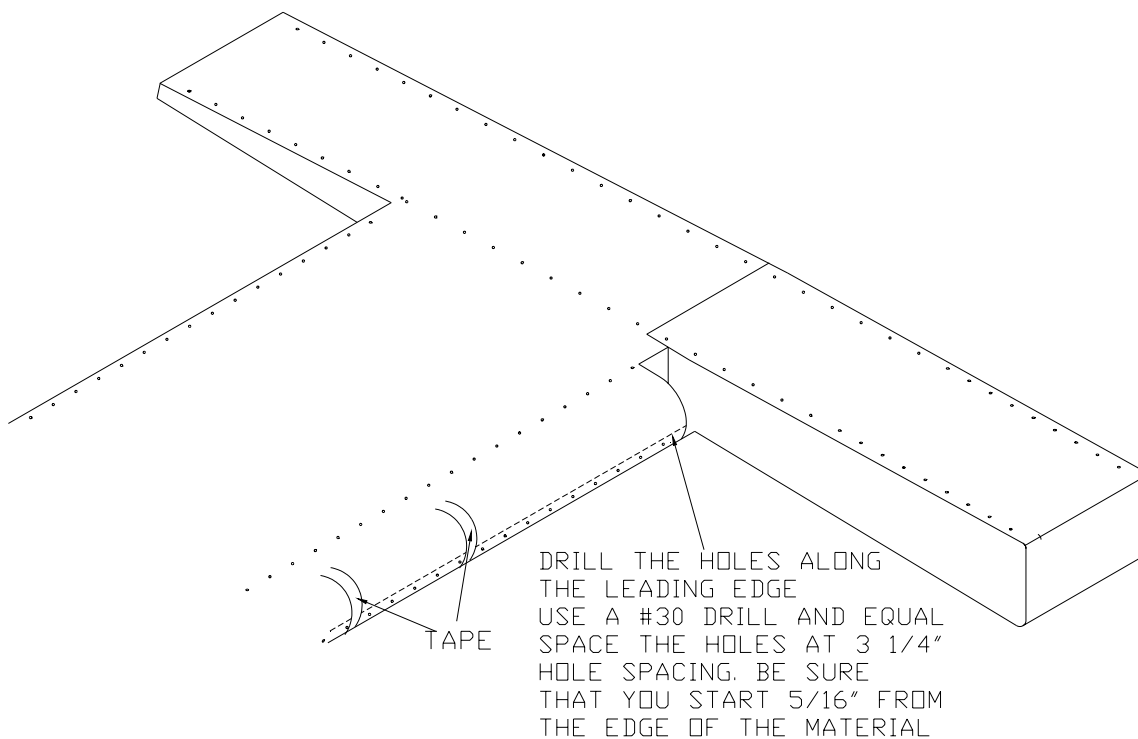

Figure 3.6.5
- 17) Draw a line 1/2" from one edge of the Elevator Leading Edge. Pull the Leading Edge halves together with masking tape. The overlap should be a 1/2". Figure 3.6.5.